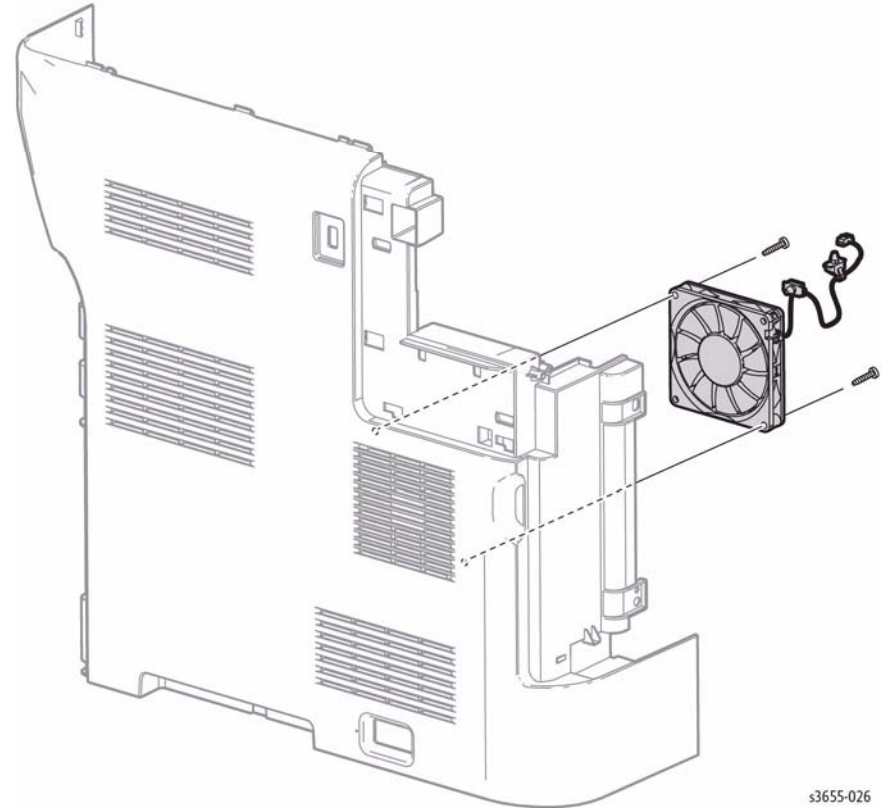

Figure 2 Remove the LVPS Fan
6. Refer to Figure 2 to locate and release 1 cable tie and disconnect the fan from the chassis.
7. Refer to Figure 2 to locate and remove 2 screws (silver, tapping, M3, 22mm) and disconnect 1 cable tie to remove the fan from the Left Side Cover.